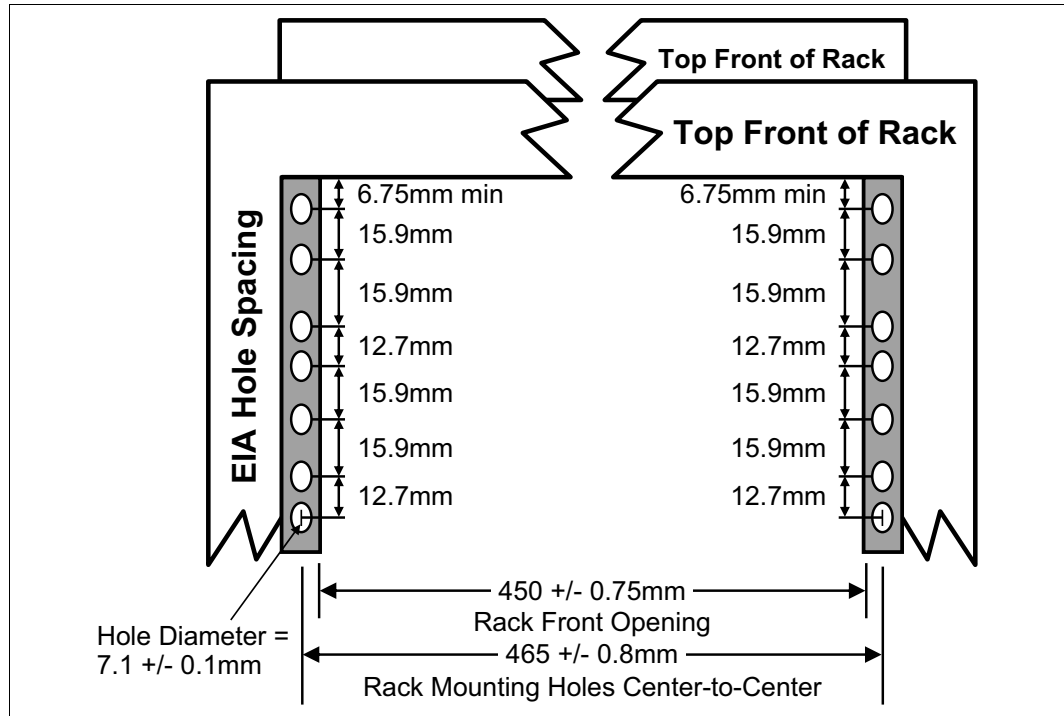

Figure 1-13 Rack specification dimensions - top front view
- ▶ The vertical distance between the mounting holes must consist of sets of three holes spaced (from bottom to top) 15.9 mm (0.625 in.), 15.9 mm (0.625 in.), and 12.67 mm (0.5 in.) on-center, making each three-hole set of vertical hole spacing 44.45 mm (1.75 in.) apart on center. Rail-mounting holes must be 7.1 mm ± 0.1 mm (0.28 in. ± 0.004 in.) in diameter. Figure 1-13 shows the top front specification dimensions.